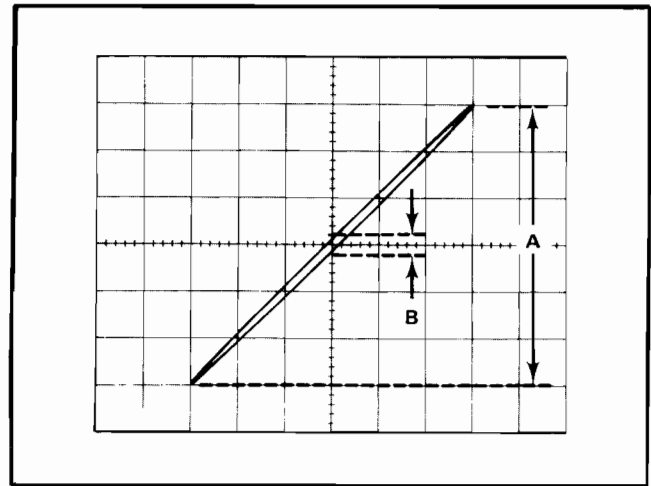

Fig. 2-9. Phase difference measurement from an X-Y display.
3. Position the display to the center of the screen and adjust the Volts/Div switches to produce a display six divisions vertically (Y) and six divisions horizontally (X).
4. Center the display in relation to the center vertical graticule line. Measure the distances A and B as shown in Fig. 2-9. Distance B is the vertical measurement between the two points where the trace crosses the center vertical line. Distance A is the maximum vertical amplitude of the display.
**EXAMPLE:** Assume a display as shown in Fig. 2-9 where A is 6 divisions and B is 0.4 division.